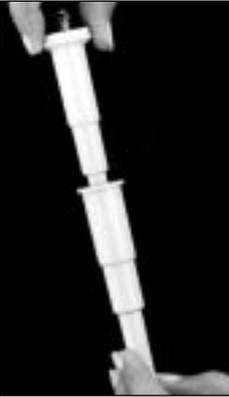

FIGURE 9-1
EDP-Plus liquid ends are interchangeable. The liquid end nominal volume is marked in two places, shown in Figure 9-1. The encoder plug is marked on its top surface. The liquid end can be mounted very quickly on the EDP-Plus control module as described below.
6. Take the replacement encoder plug. Make sure the labels on the plug and liquid end match. Also check the markings on the liquid end (these are shown in Figure 9-1).
Refer to Figure 9-1 and remove the tip ejector as follows: